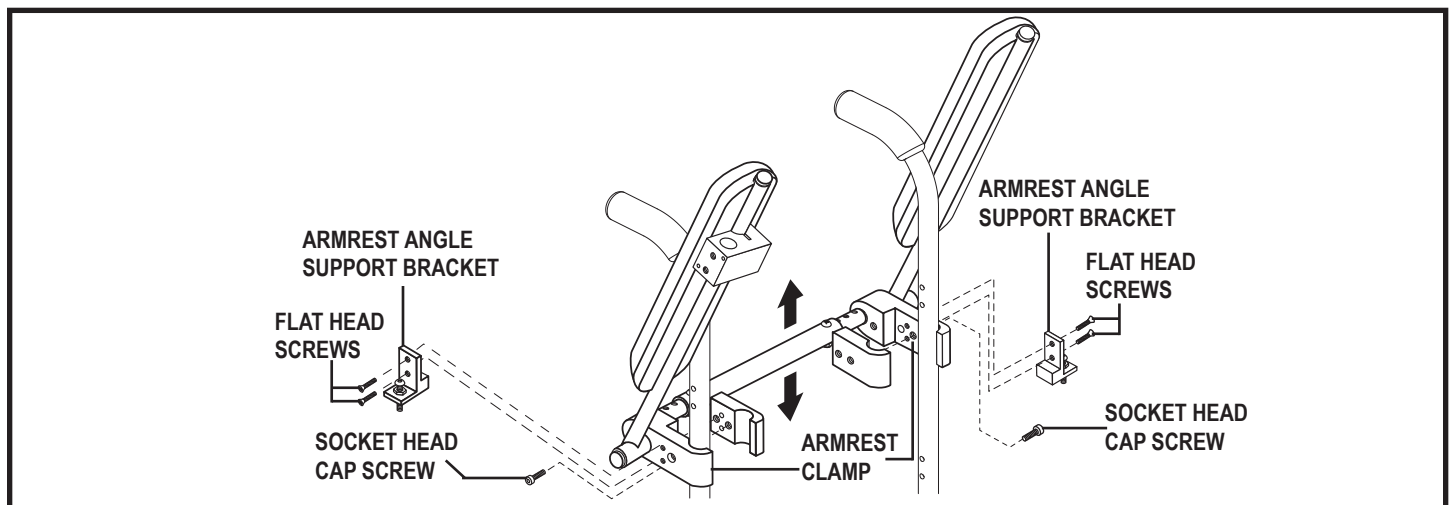

Figure 20. Flip-Up Armrest Height Adjustment
4. Remove the two (2) flat head screws from the armrest angle support bracket, then remove the bracket. **See figure 20.**
5. Remove the socket head cap screw from the armrest clamp. **See figure 20.**
7. Reinstall the socket head cap screw to the armrest clamp. **See figure 20.**
8. Replace the armrest angle support bracket, then reinstall and tighten the two (2) flat head screws. **See figure 20.**